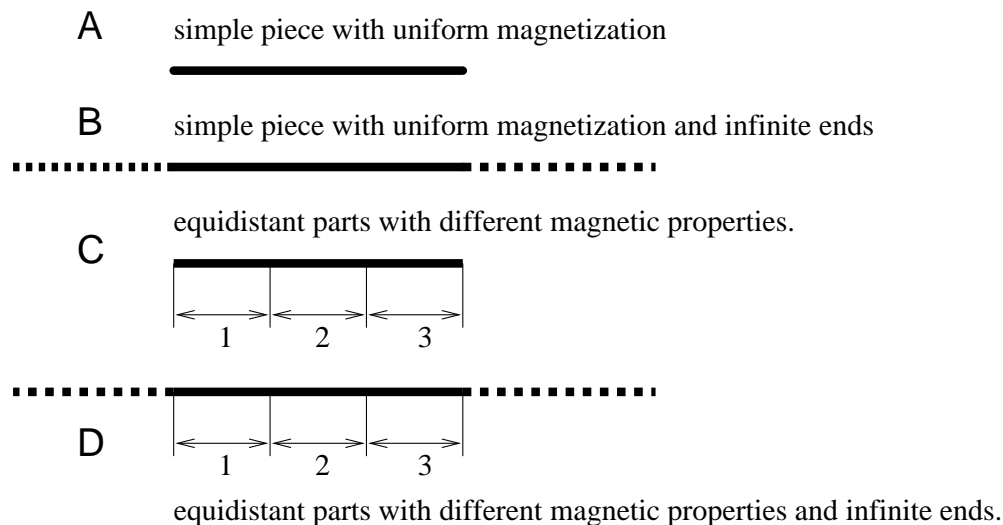

Figure 134: Modification of pipe model.
To cope with this problem MagPick provides several user-selectable modifications of search (see figure 134)
Set *Object type*: as *Pipe* and press *Object specific*. Here set *Number of pipe segments* as 1, and check *Use infinite approximation..* This corresponds to the case (b) from figure 134. Press Ok and press *Start iterations...* Now the program is calculating. Watch the progress indicator (8). The last two numbers are the most important. They are the current depth and discrepancy. The last one should decrease. Wait till it finishes. For pipe inversion you normally do not have to press *Cancel*.